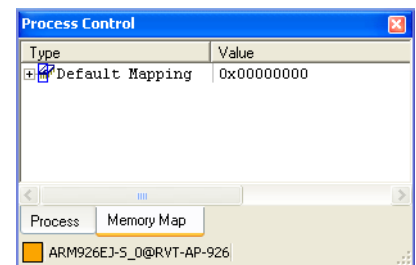

Figure 10-1 Memory Map tab
3. Select **Memory Mapping** from the context menu to enable memory mapping. Figure 10-1 shows an example: